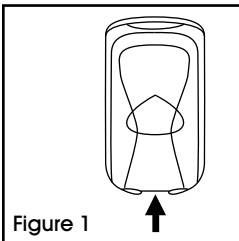

Figure 1
1. Open dispenser by pushing release on bottom of dispenser. (See Figure 1)